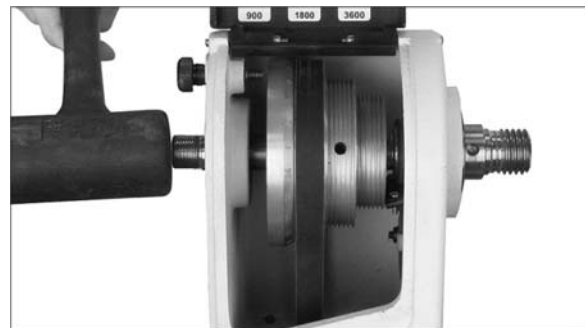

Figure 31
8. Use a rubber mallet, or hammer against a block of wood, to tap spindle toward tailstock (Figure 31).